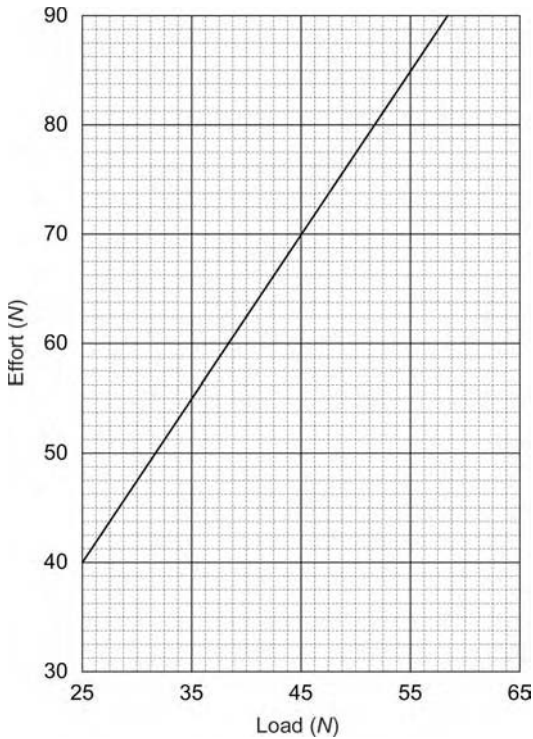

Figure 2.49 Straight line graph of effort against load.
72. The straight line graph shown in Figure 2.49 takes the form $y = mx + c$, the value of m will be approximately: [A, B1, B2]